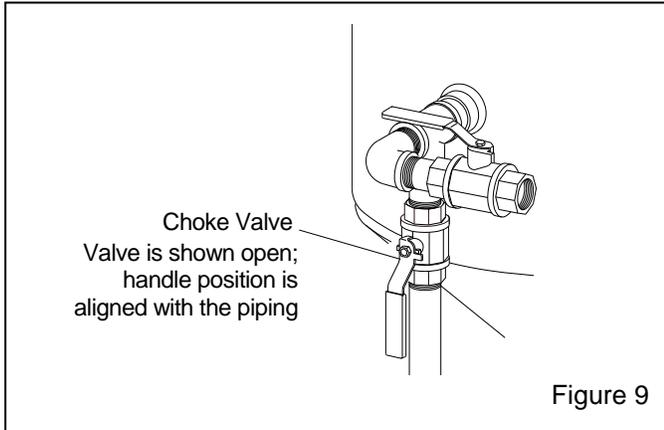

Figure 9
**3.2.5** Make sure the choke valve is open; the valve is open when the handle position is aligned with the piping, as shown in Figure 9.
### 3.5 Operation and Function of the Choke Valve Refer to Figure 9
**3.5.1** Always fully open the choke valve while blasting; open is when the handle position is vertical and aligned with the piping as shown in Figure 9.